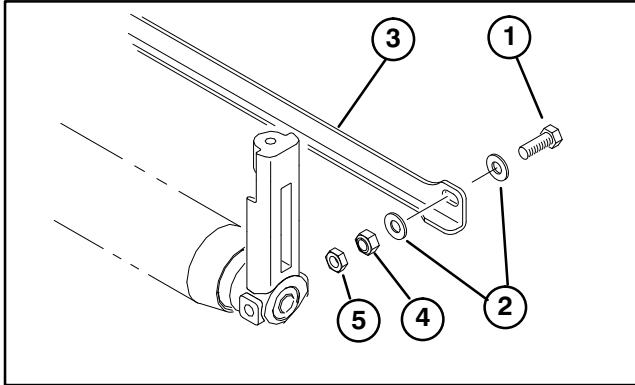

Figure 6
MOUNT ROLLER SCRAPERS (Fig. 6)
1. Loosely secure a capscrew, (2) washers, a jam nut and a locknut to each end of roller scraper as shown in figure 6. Rear scraper installation is shown in figure 6, reverse scraper so edge is on top when installing on front roller.